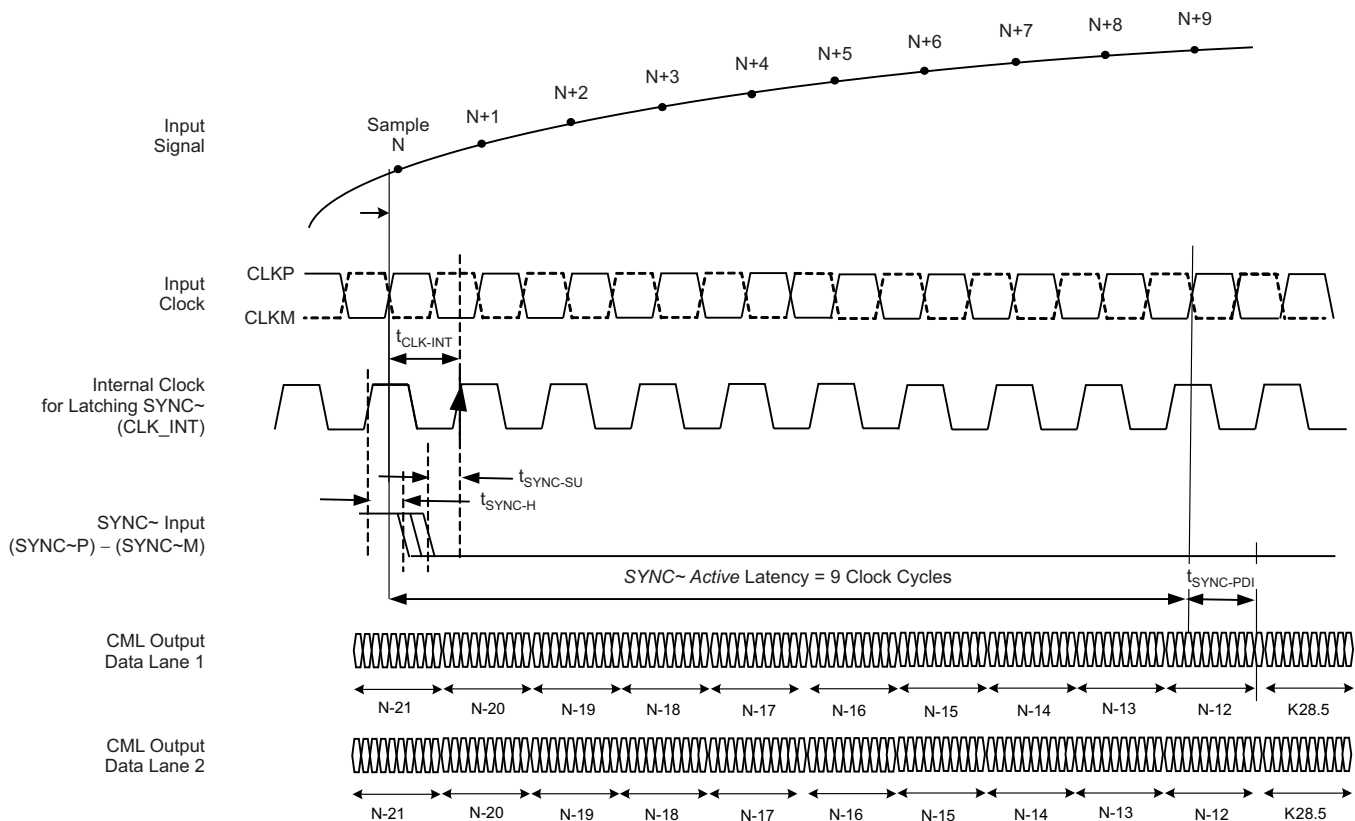

Figure 5. SYNC~ Active Timing Diagram
The receiver issues a synchronization request through the SYNC~P, SYNC~M pins whenever the frame boundary of the output data stream must be synchronized to. Figure 5 shows how the transmission switches from normal data (D) to code group synchronization symbols K28.5 symbols during and after a synchronization request.